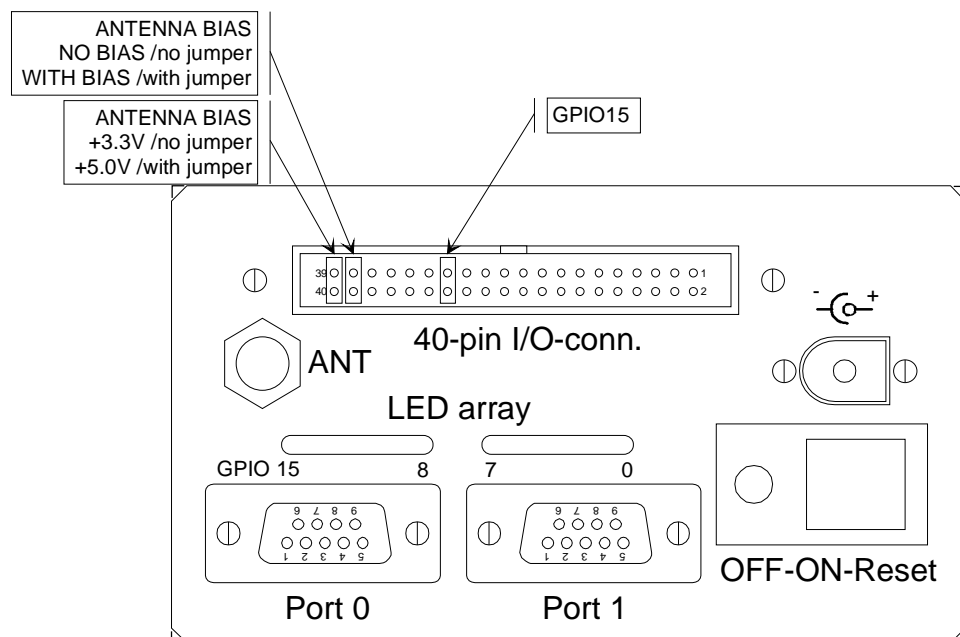

Figure 1 Back panel of the Evaluation Kit
- Two jumpers for antenna bias selection (as described in Figure 1 and in the following chapter). The antenna bias is preset in factory for +5V.
The antenna port on iTRAX02 can be supplied with an external bias. On the Evaluation Kit the bias can be either +5V or +3.3V. The following jumper settings are available on the 40-pin I/O-connector (X6) on the back panel (see figure 1):